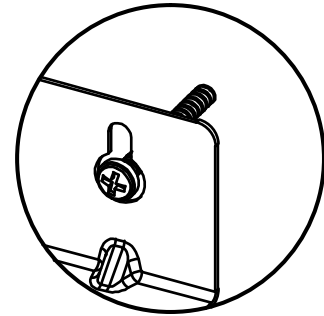
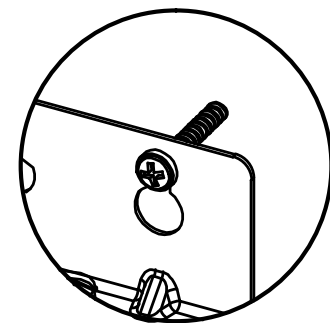

Figure A5-1
Figure A5-2
- 3- Drive 4x50mm screws into the threaded insert making sure that the spacing between the wall and the screw head is 2-4 mm in Figure A5-1 and Figure A5-2